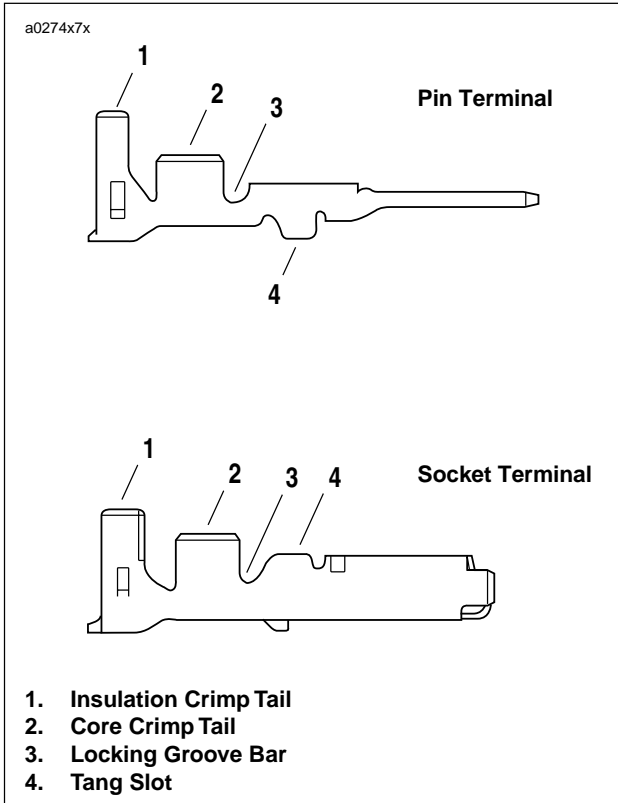

Figure B-8. Crimps
6. See Figure B-8. Inspect the quality of the core and insulation crimps. Distortion should be minimal.